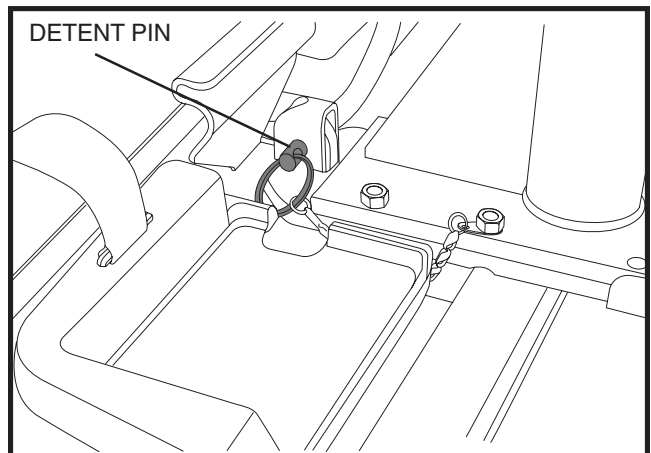

Figure 15. Detent Pin Removal
9. Remove the detent pin that secures the front and rear sections together. See figure 15.